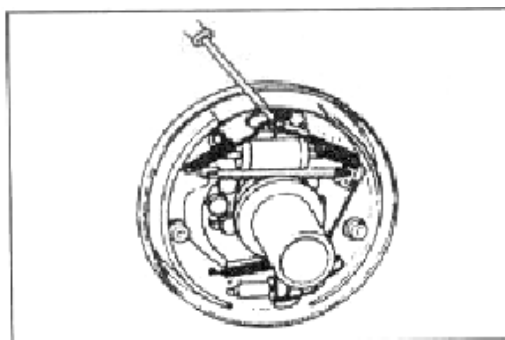

Fig 6-8
(2) Remove the return springs for the two brake shoes (Fig 6-8)